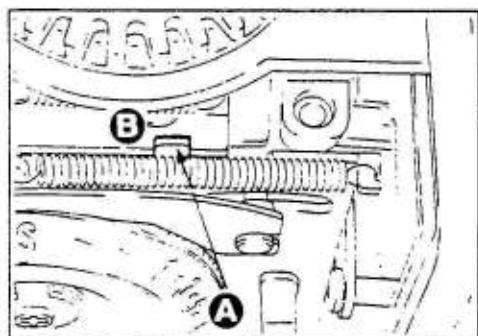

Fig. 2
2. Insert the lever ④ of the winding substrate ass'y into the groove ⑤ of transmission lever of the upper substrate ass'y. (See Fig. 2.)